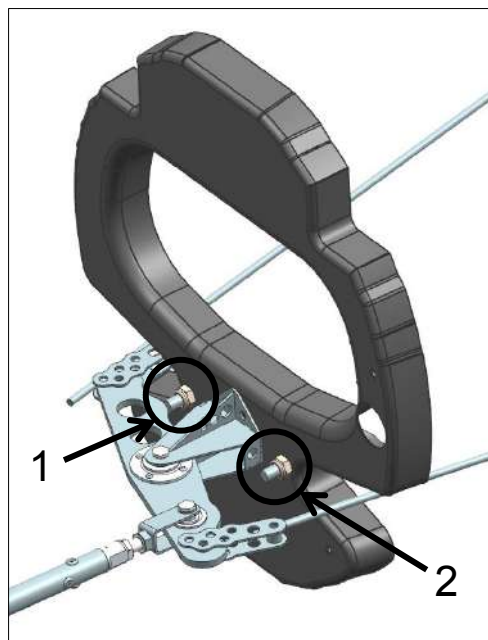

Figure 27-10: Rudder control stop locations
2. The locations for the control stops of the rudder system are given in Figure 27-10 .
3. If the tolerance is not met when the rudder is in the full left position, number 1 (Figure 27-10) should be adjusted to a more forward position and vice versa for the tolerance not made to the lower limit.
4. If the tolerance is not met when the rudder is in the full right position, number 2 (Figure 27-10) should be adjusted to a more forward position and vice versa for the tolerance not made to the lower limit.